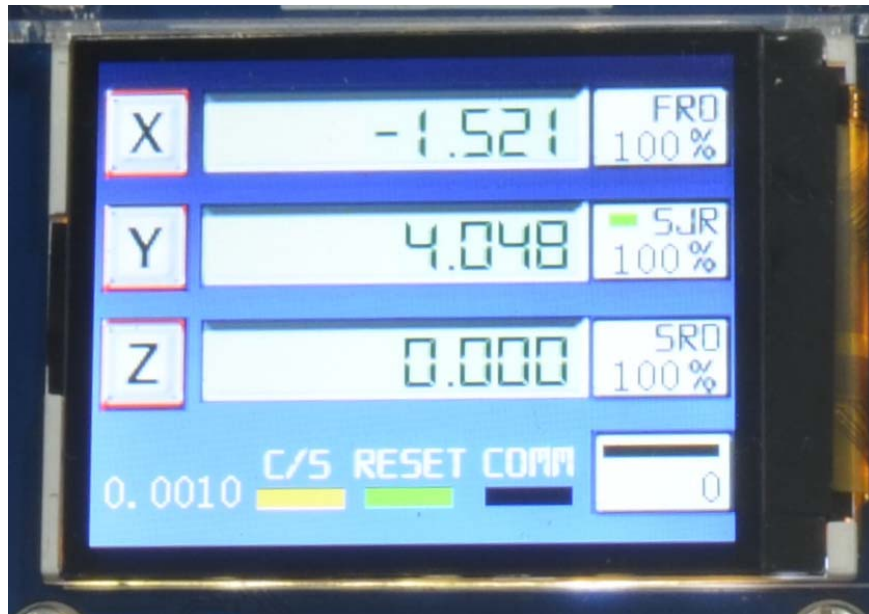

figure 2
Figure 2 definition of keyboard
- push the key "XYZ/ABC" to make the screen in XYZ mod. see as figure 2